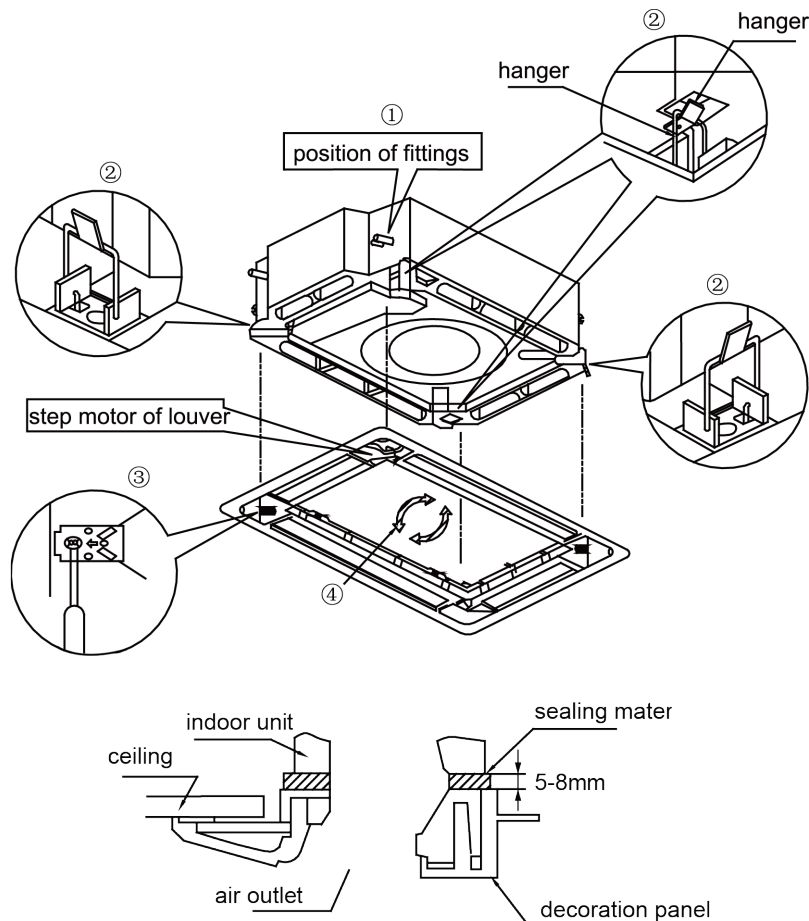

Fig.4.4.4
(1) Detach the panel's Corner Cap, there is a mark "piping side" on one of the 4 corners, adjust the panel direction so as to keep the mark and fittings on the same corner.
- (2) Temporality hang the panel to body (there is four hangers on each corner of the panel, hang the hangers to corresponding hooks on the body), as shown in Fig.4.4.4.
- (3) Detach the air inlet grille from panel, make a wiring connection of signal receiver. Notices that the connection wire not stuck in the middle of body and panel, or may cause air leakage and lead to condensation water drop.
- (4) Tighten 4 screws at each corner of panel respectively, fix the panel on the body firmly.
- (5) After tightening screws, reinstall the air inlet grille.